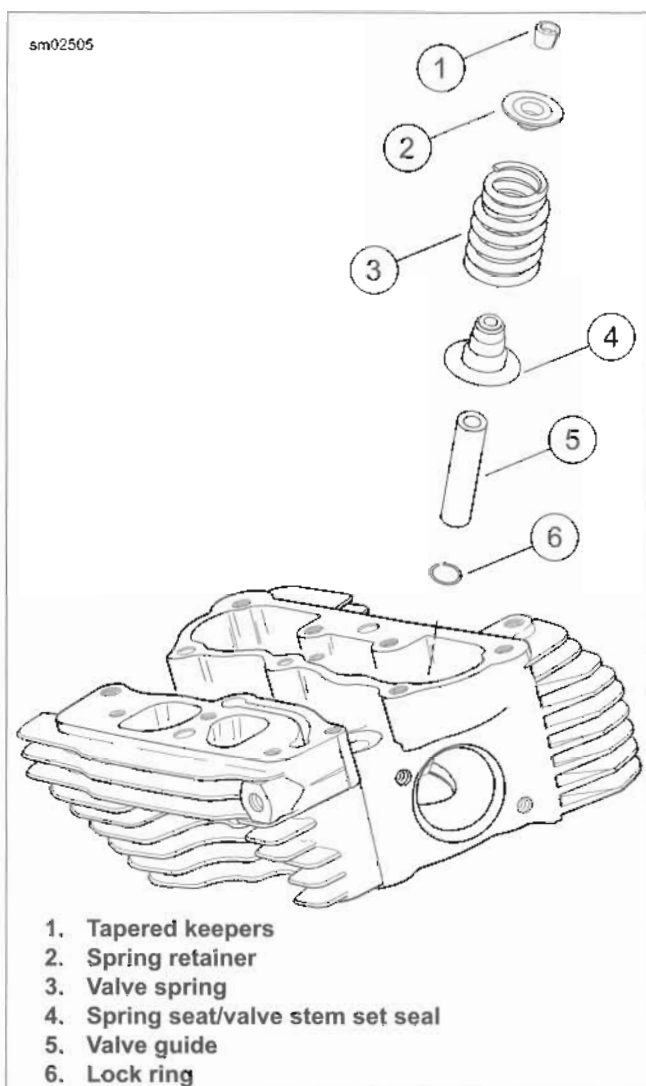

Figure 3-55. Valve Assembly
10. See Figure 3-55. Apply a liberal amount of SCREAMIN' EAGLE ASSEMBLY LUBE to valve stem tip and keeper groove (1).
11. With the smaller diameter coils topside, install the valve spring (3). Place the spring retainer (2) on top of the valve spring.